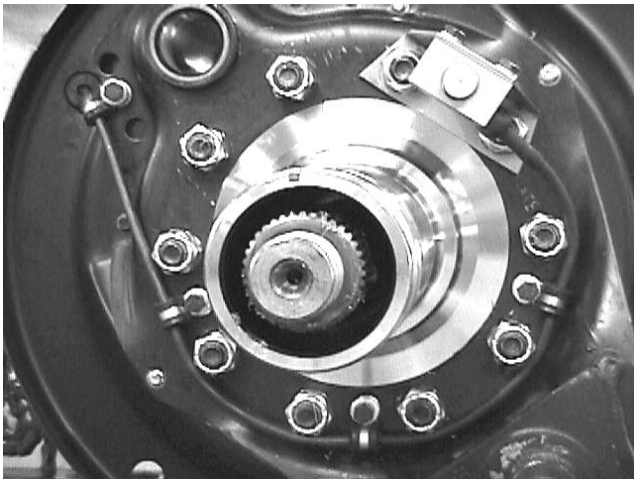

Figure 23
5. Push the connector end of the ABS sensor cable through the hole in the dust shield. Position the cable as is shown in Figure 23.